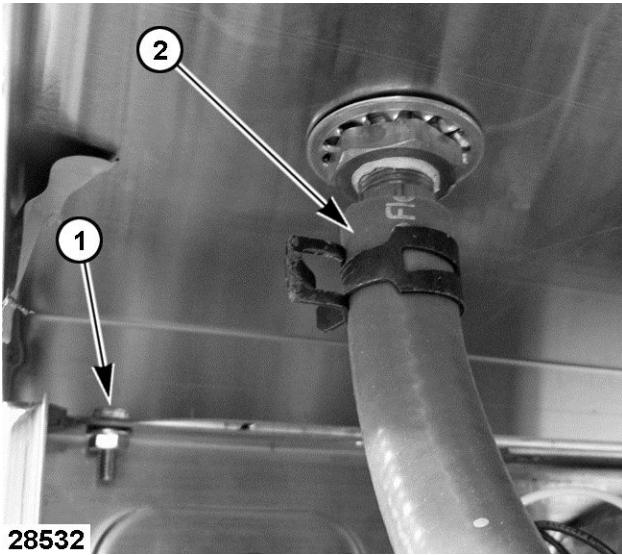

Fig. 5
4. Remove mounting hardware [1] Fig. 5 securing top cover to front panel. The mounting hardware is located on both sides of the cooking compartment.
5. Disconnect the delime hose [2] Fig. 5 from delime port fitting.